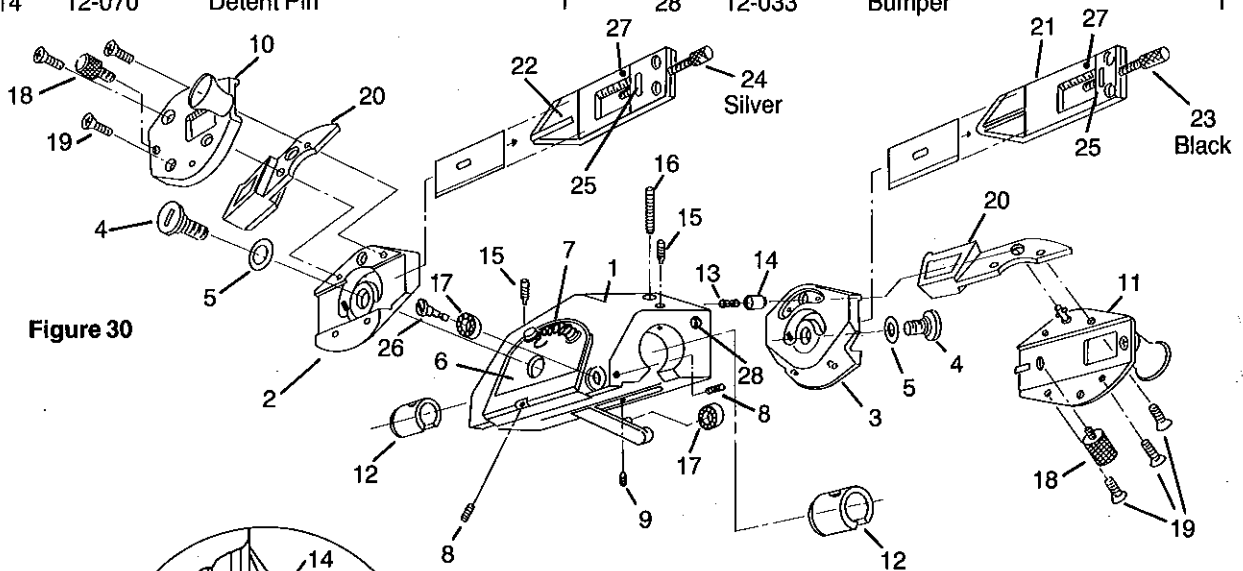

Figure 30
If the HEAD should develop side to side looseness, correction is easy. Referring to Page 24, tighten the two shaft BEARINGS (No. 12 in Figure 30) by tightening set screws No. 15 with the  $\frac{3}{32}$ " Allen wrench. Start with either screw. Tighten it slowly while sliding the HEAD back and forth on the SHAFT. When you feel the HEAD drag, loosen the screw slightly. Do the same with the other screw. This will correct side to side wobble. *Do not overtighten.*
- B. Use a standard screw driver to slightly tighten the PIVOT SCREW (No. 4 in Figure 30). Rotate the PIVOT HEAD while making this adjustment to be sure you do not over tighten and cause the PIVOT HEAD to bind.